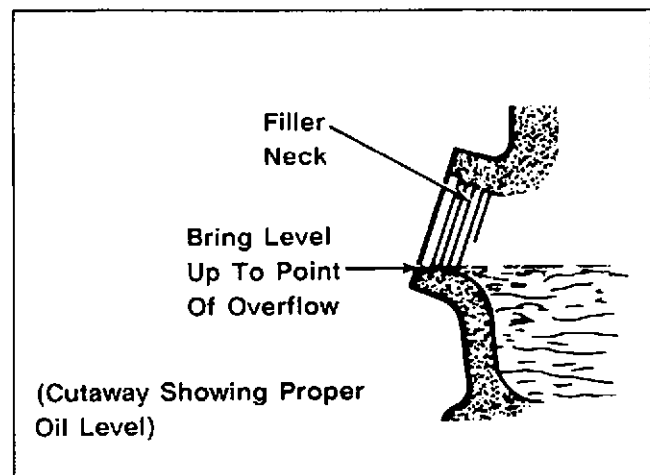

Figure 6-4. Proper Oil Level On CH6 Engine.
4. If the level is low, bring it up to the point of overflowing the filler neck as shown in Figure 6-4. Refer to “OIL TYPE” on page 6.1 for correct type of oil to use.